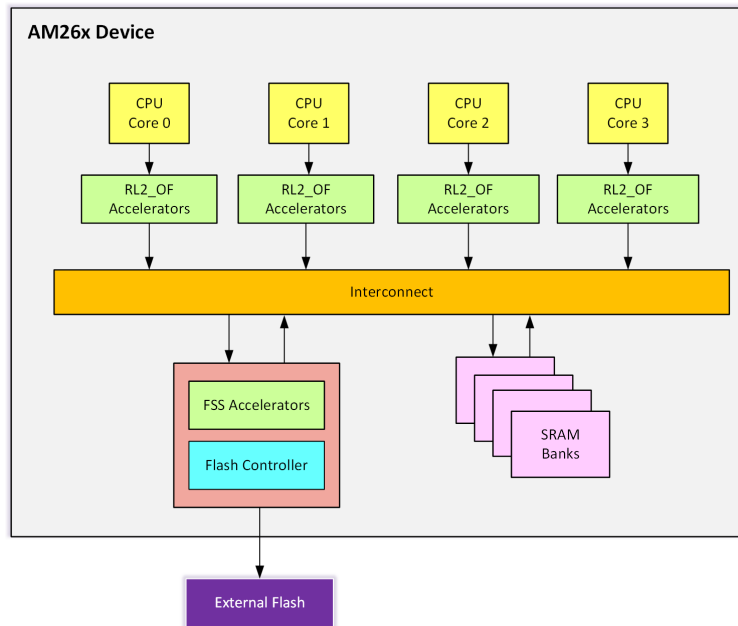

Figure 3-1. OptiFlash Key Hardware Components Diagram
Executing from external Flash brings a host of challenges that needs to be solved such as: Performance, Functional Safety, Security, Startup-time and Firmware upgrade. OptiFlash solution integrated in an MCU/SoC chip, as shown in Figure 3-1, provides a set of innovative Hardware (HW) Accelerators and Software (SW) tooling, that aims to solve all the above challenges when executing from external Flash. OptiFlash can address up to 128MB of external flash while enabling the lowest possible system BOM cost.